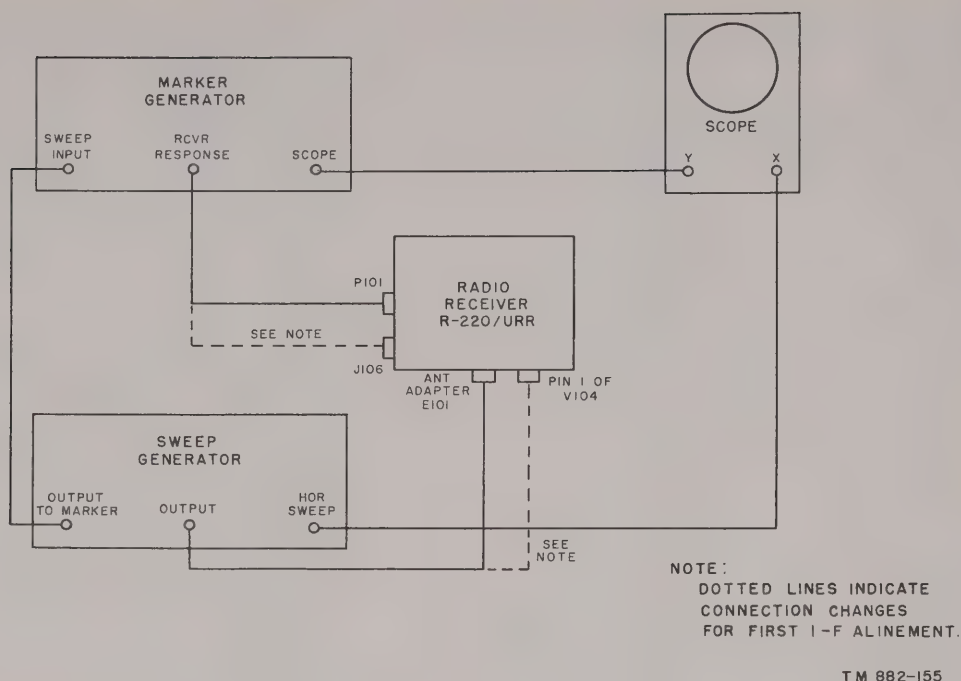

Figure 116. Test equipment set up for r-f and multiplier alinement.
b. *R-f Alinement.* Disconnect the vtm from P101 and connect P101 to a marker generator. Set up the test equipment as shown in figure 116.
a. Set the receiver front panel controls to the positions listed in paragraph 107b. Set up the test equipment as shown in figure 116 using the alternate set-up indicated by dotted lines. Rotate the BAND SELECTOR to band 1. Remove the second high frequency oscillator tube V111 and turret Z152. (The output of the sweep generator is coupled to the grid of V104 through the wiper for Z152.) Adjust marker generator and sweep generator output to 6.0942 mc and sweep generator output for 1 mc sweep width.